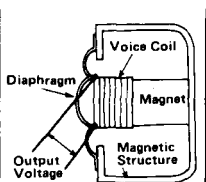

FIGURE 2-Dynamic
**Dynamic Generating Elements.** The diaphragm of a dynamic microphone is attached directly to a coil of wire (voice coil) located close to a magnet. When the voice coil vibrates, a voltage is produced. A dynamic microphone is shown in Figure 2.